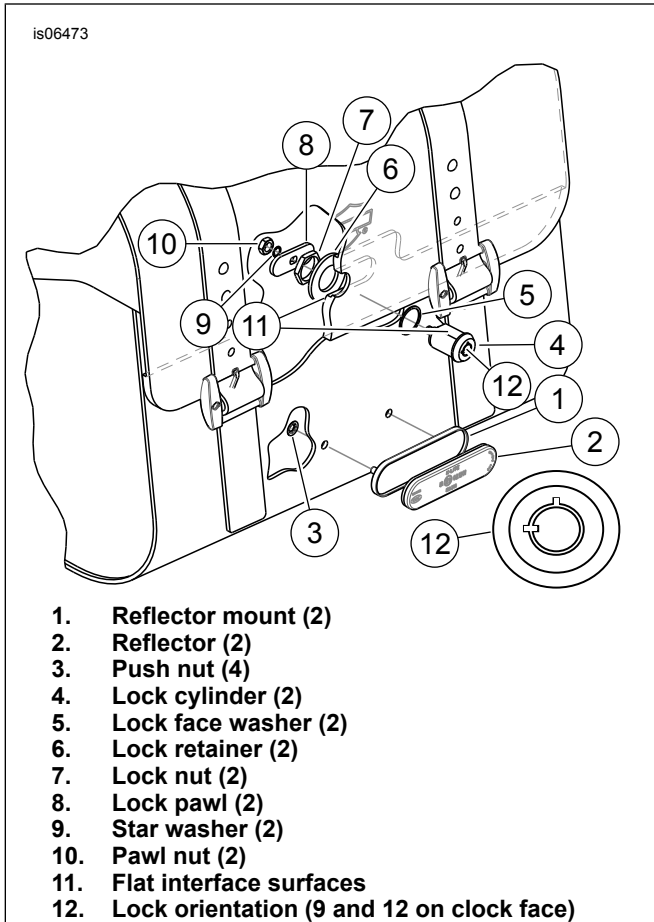

Figure 6. Install Reflectors and Lock Assemblies
- See Figure 6. Position reflector mount (1) in center of saddlebag.
- Clean the surface of the reflector mount (1) with a mixture of 50-70 percent isopropyl alcohol and 30-50 percent distilled water. Allow to dry completely.
- Remove the liner from the adhesive backing of the reflector (2). Carefully position the reflector to the reflector mount. Press firmly into place. Hold the reflector in position with steady pressure for at least one minute.
- Install reflector mount (1) on saddlebag using two push nuts (3). The push nuts are installed from inside the saddlebag.
3. See Figure 6. Place the lock face washer (5) over the lock cylinder (4).
4. Install the lock cylinder so the key notches of the lock face (12) are oriented at the 12 o'clock and 9 o'clock positions. Insert lock cylinder through hole in saddlebag lid and engage flat surfaces (11) of both lock and lid support plastic backing.
5. Install the lock retainer (6) from the inside of the saddlebag lid and over the lock cylinder.
7. Install the locknut (7) from the inside of the lid and thread onto the lock cylinder. Tighten securely.
8. Remove the pawl nut (10) and star washer (9) from the installed lock cylinder (4). Do not remove the cam washer from the back of the lock cylinder. If the cam falls off the lock cylinder, it must be replaced correctly. Correct installation allows the key to be removed in both the locked and unlocked positions. The cam can be installed incorrectly so test the orientation before installation of the pawl. If the key is unable to be removed in either lock position, flip the cam over and install.
9. Install the lock pawl (8) to the threaded post of the lock cylinder as well as a star washer (9) and pawl nut (10). Tighten pawl nut securely.